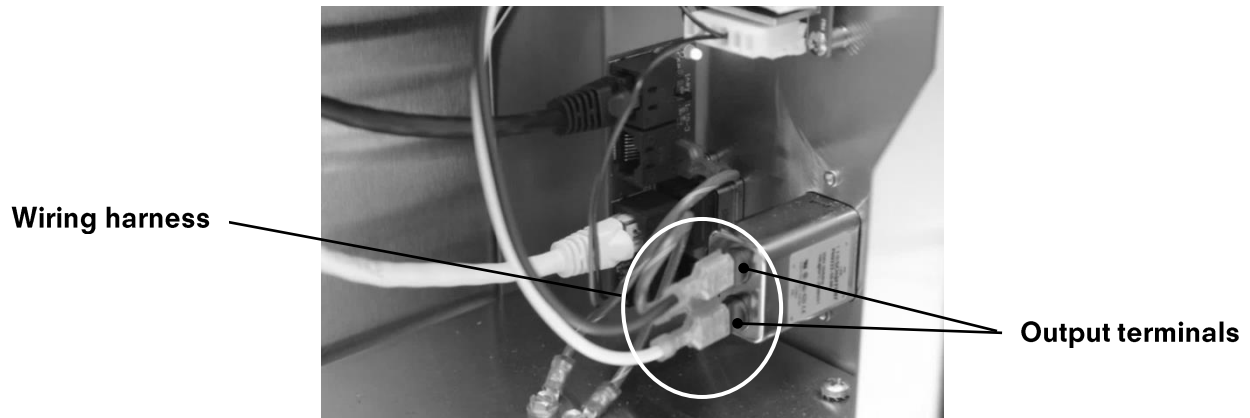

Figure 58: Power entry module wiring harness connectors
6. Replace the power entry module wiring harness and ground wire. Refer to Figure 58: Power entry module wiring harness connectors.
The power entry module can be checked with a voltmeter at its output terminals, 120V AC. Please refer to Figure 58.